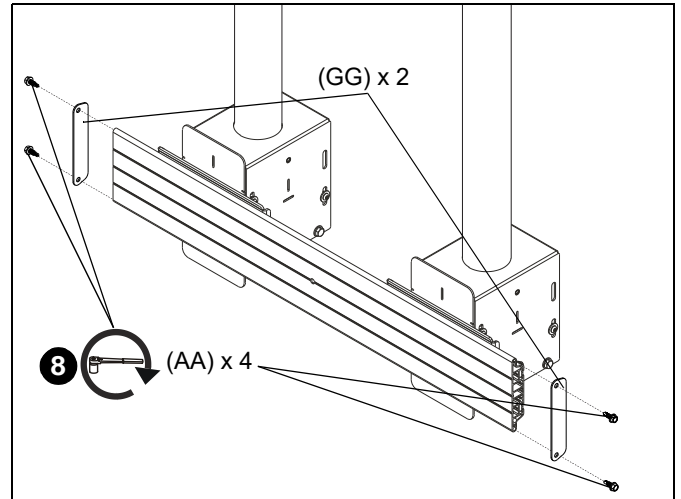

Figure 7
- Use four 1/4-14 x 3/4" hex flange bolts (AA) to secure two side covers (GG) to ends of X-large rail (JJ). (See Figure 7)